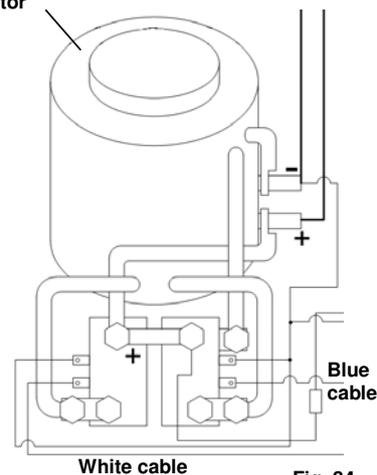

Fig. 34
If it happens that during testing the direction of thrust does not correspond with the direction of the switch on the control panel, the blue cable (A) and the white cable (B) on the relay must be inverted (Fig. 34).